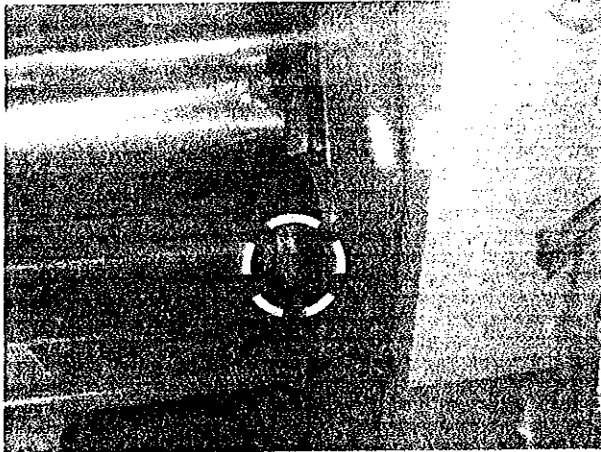

Figure-1
- 2- Connect the screw on Figure-1 above